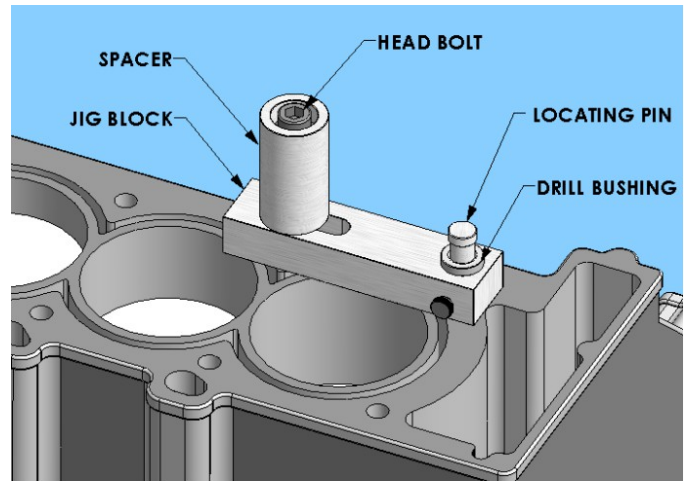

FIGURE 1A
2. **Figure 1A** – Install the Drill Bushing into the Jig Block, then snug it in place with the thumb screw located on the side of the Jig. Make sure the deck surface is clean. Mount the Jig Block in a good head bolt hole near the hole being repaired, using the spacer specified in the instructions for the engine being repaired, along with a **NEW** head bolt (**old head bolt threads are normally stretched out of pitch, causing them to seize in the new insert**). With the jig loose, center the Drill Bushing over the hole being repaired by install the Locating Pin through the Drill Bushing and into the top of the hole. Hold Locating Pin down firmly so that the tapered end of the pin centers itself into the top of the hole. Tighten the Jig in place, being careful not to over tighten. Remove the Locating Pin.